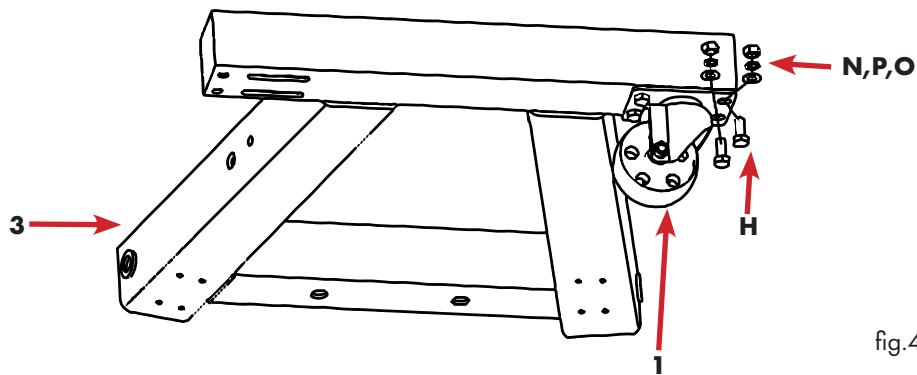

fig.4
- Secure the large 3.5" and small 3" rollers to the πsupport with screws, washers, snap rings and nuts without tightening the nuts, fig.4.
- To do this, slide the 3.5" rollers into the slotted holes on the cross beam of the πcarrier, fig.4..4
Legend figures 4 to 7 (see also from page 15, figure 2 and table 1)